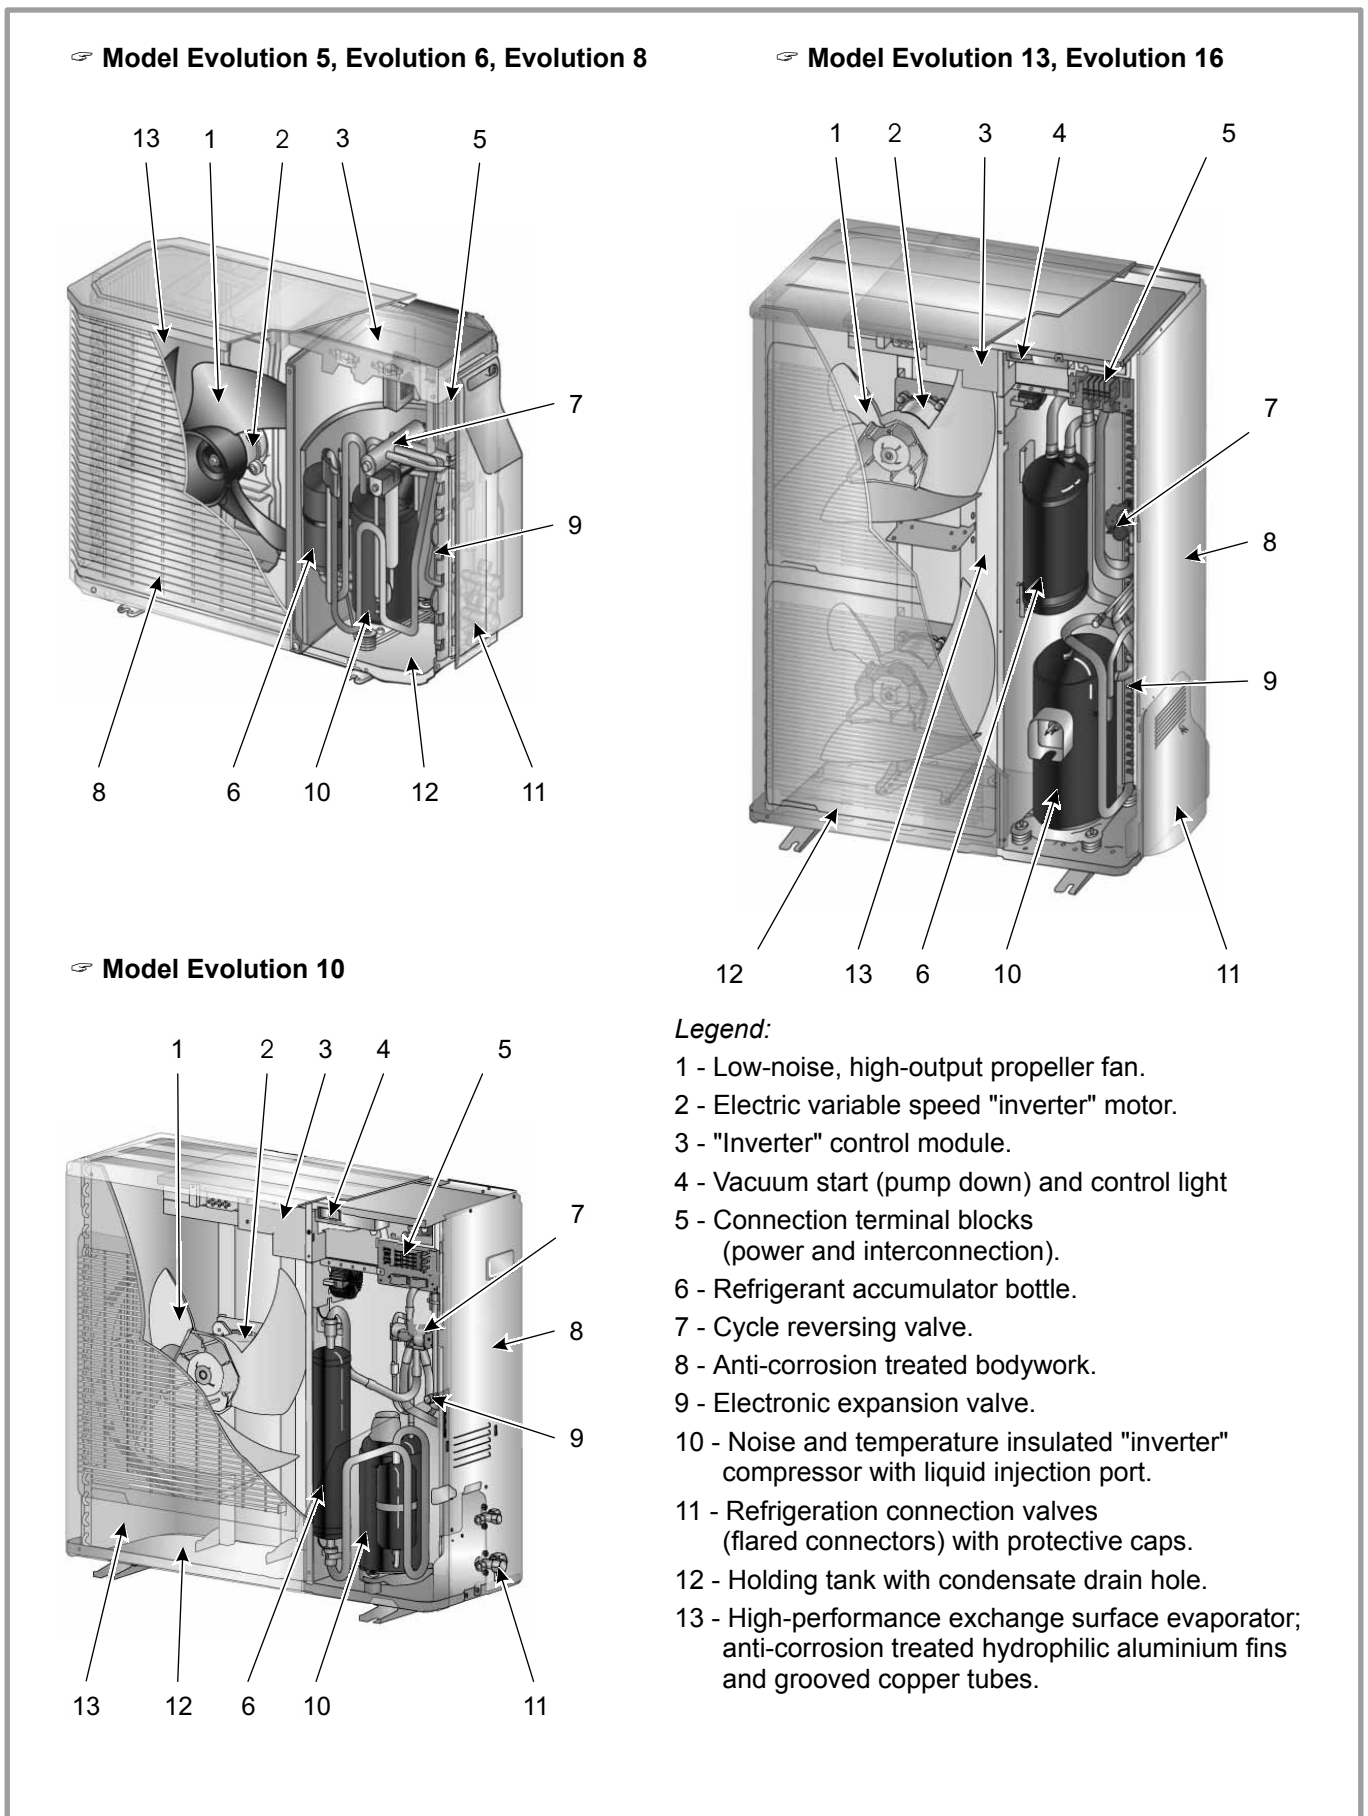

figure 7 - Outdoor unit components
- In the evaporator (reference **13**, figure 7, page 9) : The energy is taken from the surrounding air and is transmitted to the refrigerant. Because it has a low boiling point, it changes from the liquid state to the vapour state, even in cold weather (down to $-15\text{ }^{\circ}\text{C}$ outdoor temperature).
- In the compressor (reference **10**, figure 7, page 9) : The vaporised refrigerant brought to high pressure and takes on more calories.
- In the expansion valve (reference **9**, figure 7, page 9) : The liquefied refrigerant is brought back to low pressure and returns to its initial temperature and pressure.